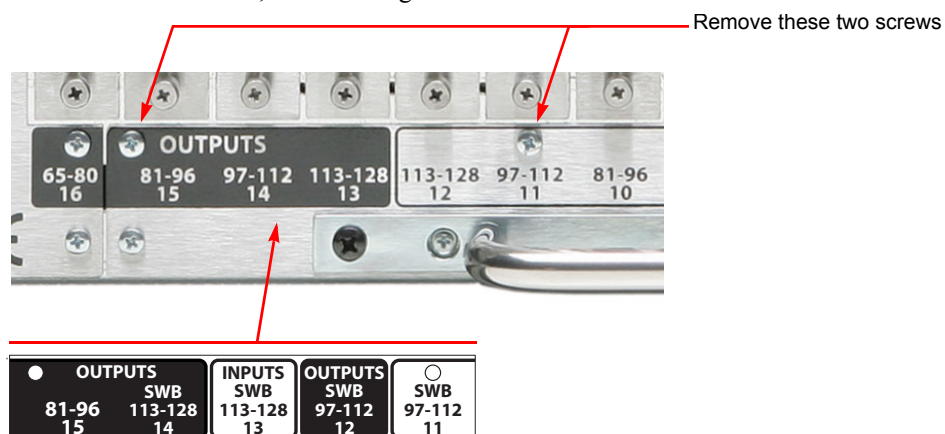

Figure 3-4. Classic SWB Legend Plate (Rear View)
- 1 Facing the rear of the router, locate the legend plate, as shown in Figure 3-4.
- 2 Remove the two screws, as shown Figure 3-4.